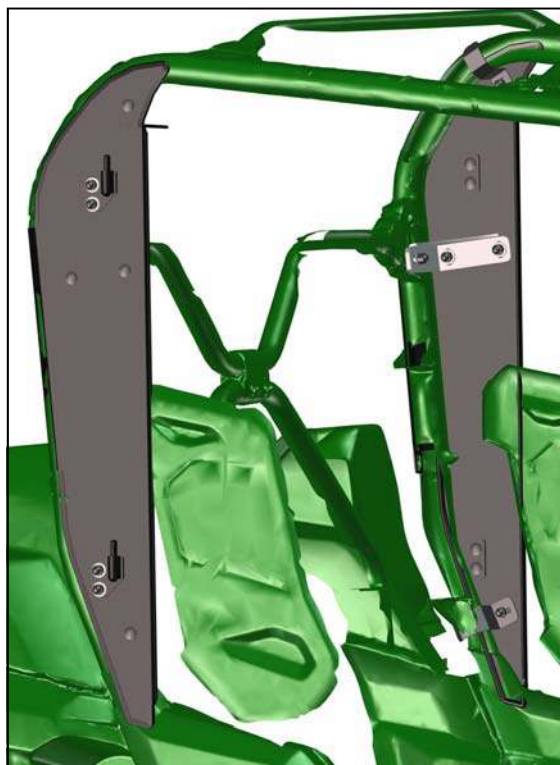

Fig. 2.5
**2.5** Per fig. 2.5, repeat previous steps for the right door base